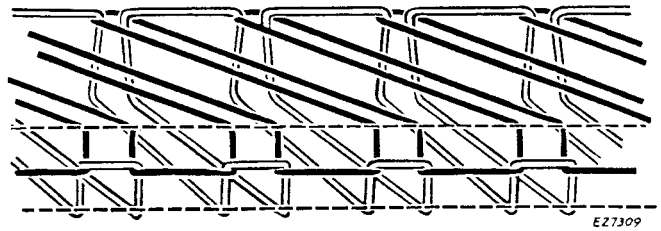
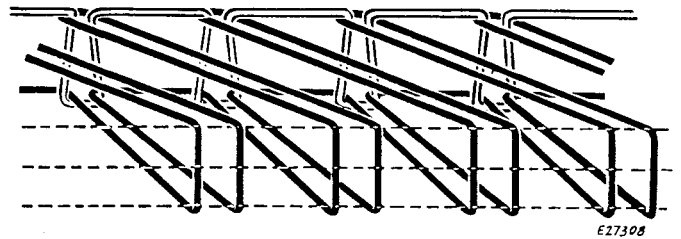

Fig. 3. Stitch Formation
Fig. 4. Stitch Formation
- ... regularly fitted for two-thread stitch (Type #503, see Fig. 3).
- ... machine can also perform two thread over-edge stitching (Stitch Type #502), by merely altering the thread tensions until the stitch formation changes from that shown in Fig. 3 to that shown in Fig. 4. See page 10 for instructions on threading.